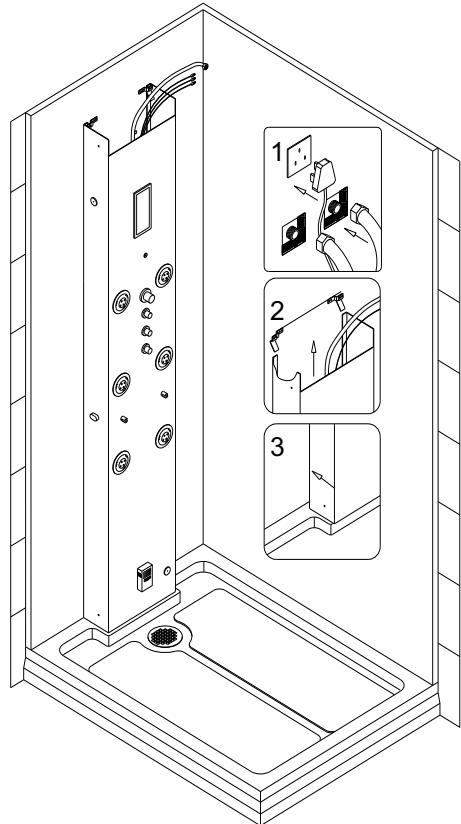

Fig. 11
4. Connect hot water line to the red mark water inlet and cold water line to the blue mark water inlet. Also connect the power supply line to the steam unit according to wire diagram. **Be sure to turn off the breaker before to do any power connections**. See fig.11 for details.
5. Pull the head shower supply line and wires for the top light, speaker and fan on top of the shower column for later connection. Secure the **Shower Column (11)** by **Column Wall Brackets** to the Wall and push it above **Retainer (36)**. See fig. 11 for details.